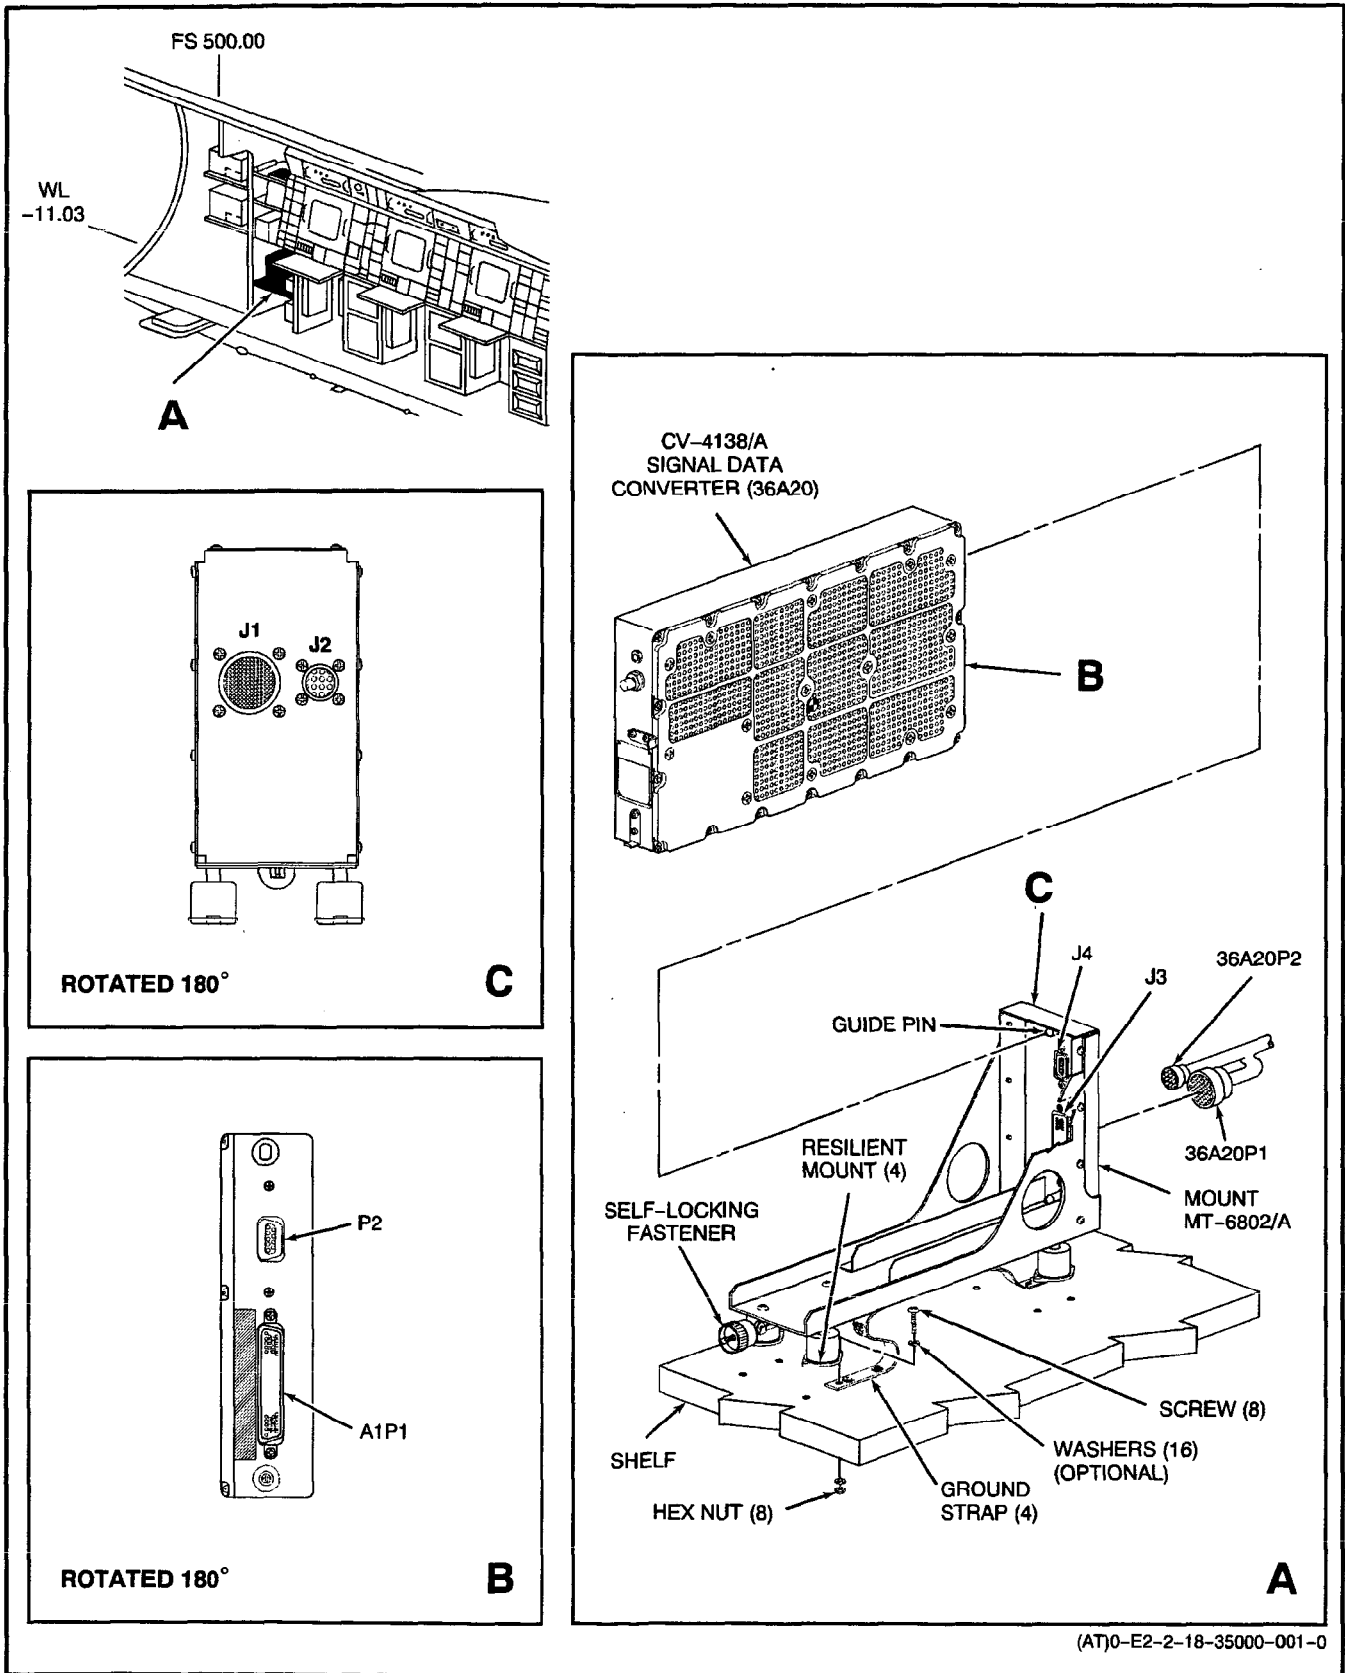

Figure 1. Removal and Installation of Signal Data Converter CV-4138/A and Mount MT-6802/A
**4. REMOVAL.** (Figure 1.)
5. INSTALLATION. (Figure 1.)
7. REMOVAL. (Figure 1.)